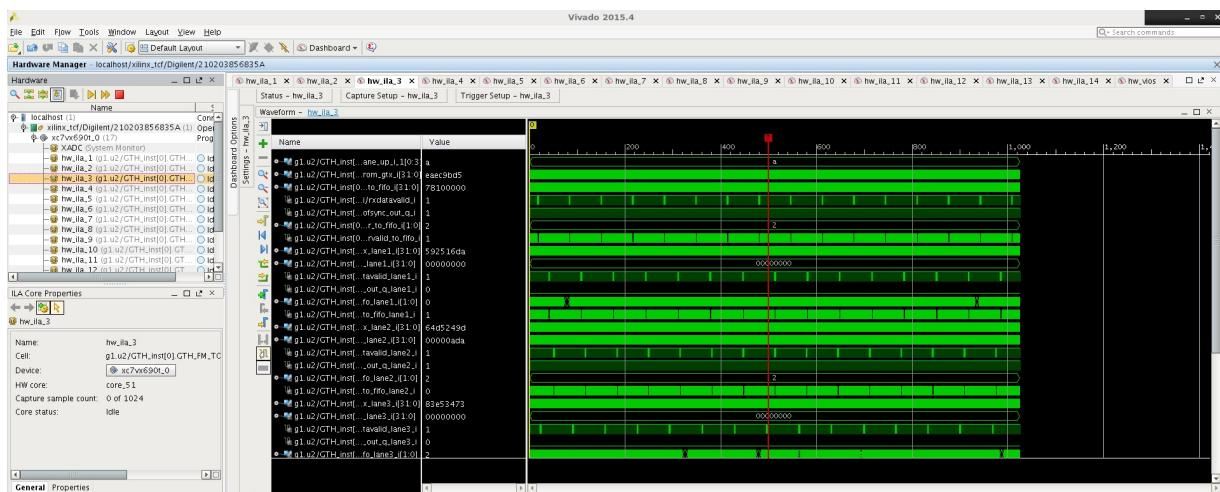

Figure 36: ILA probes in Vivado after triggering on hw_il_3. The first entry for rx_lane_up_i displays A, indicating that lanes 0 and 2 are locked.
- 547 • Go to hw_il_3 as seen in Figure 36.